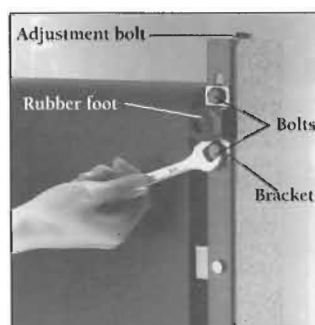

Figure 10
6. Use the 1/2-inch socket and handle provided to loosen the two bolts that secure the rubber foot and bracket at the extreme rear of the treadmill deck (on the underside of the machine). Loosen the bolts until the bracket begins to move (Figure 10).